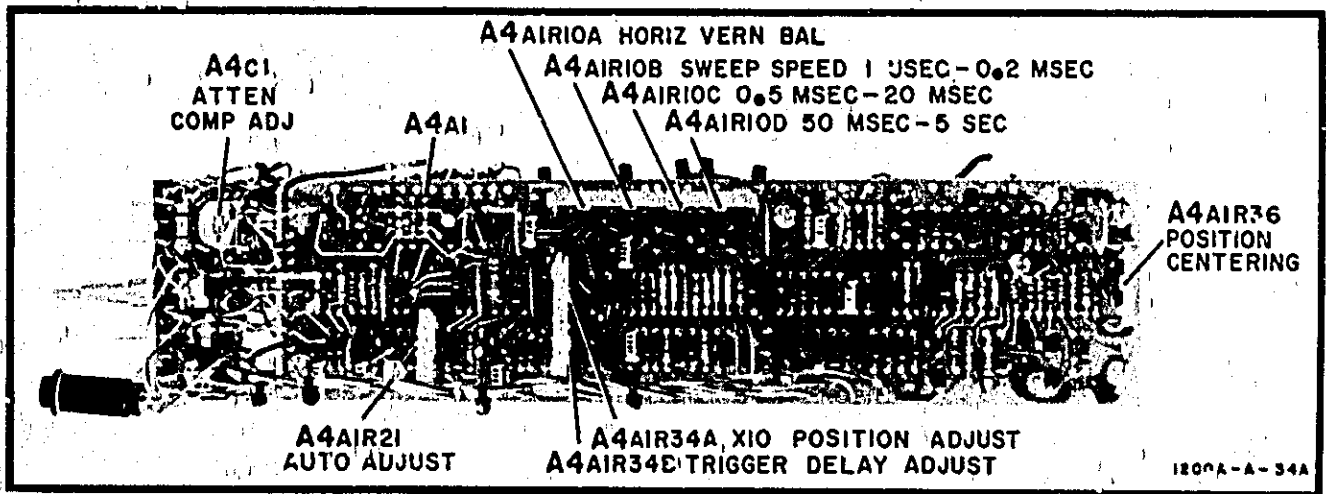

Figure 5-3. Horizontal Module Adjustments
- f. Adjust A4A1R10A (Figure 5-3) to center dot on screen.
- c. Adjust A4C1 (Figure 5-3) for minimum overshoot (observed as two well-defined dots 9 div apart). Be sure the intensity is temporarily increased to observe overshoot.
- c. Set A4A1R21 (Figure 5-3) to midrange.
- d. Adjust A4A1R34B (Figure 5-3) cw until sweep free runs; then adjust it ccw until sweep stops. Center between these points.
- f. Adjust A4A1R21 (Figure 5-3) to obtain triggering on both + and - setting of SLOPE switch.
- b. Adjust A4A1R33 (Figure 5-3) so that beginning and end of trace are equidistant from graticule center when Horizontal POSITION is set fully cw or ccw.
- c. Adjust A4A1R34A (Figure 5-3) to align beginning of trace with graticule center.
- e. Adjust A4A1R10B (Figure 5-3) to obtain one time mark per division.
- h. Adjust A4A1R10C (Figure 5-3) to obtain one time mark per division.
- k. Adjust A4A1R10D (Figure 5-3) to obtain one time mark per division.